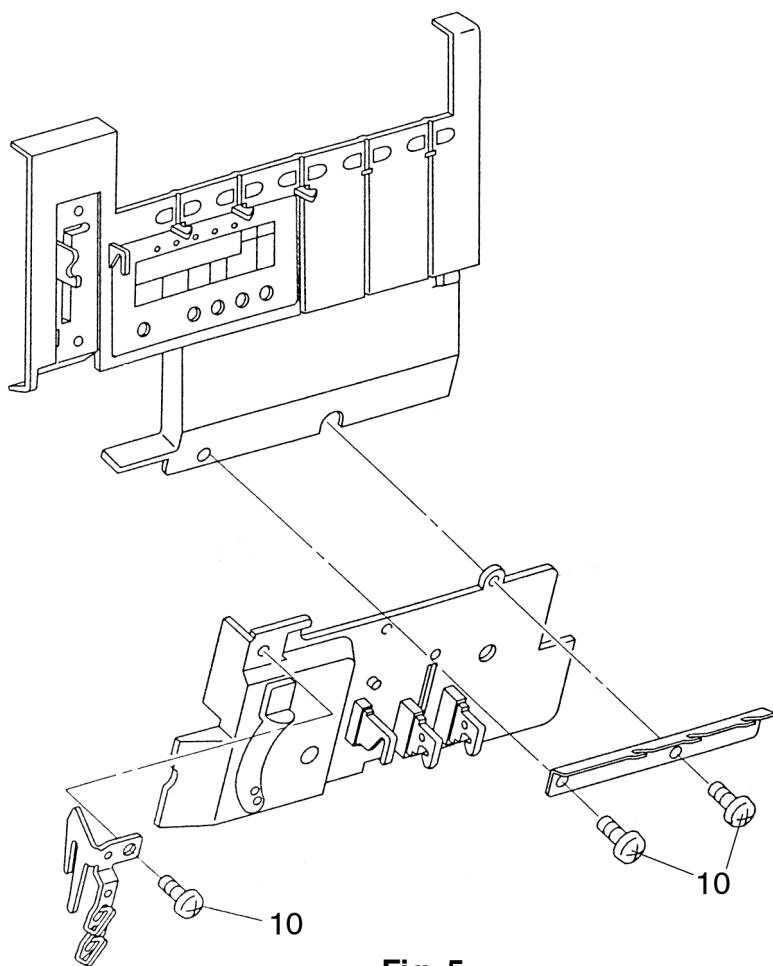

Fig. 5
- Unscrew and remove the three fastening screws 10 on the lower housing panel (fig. 5).